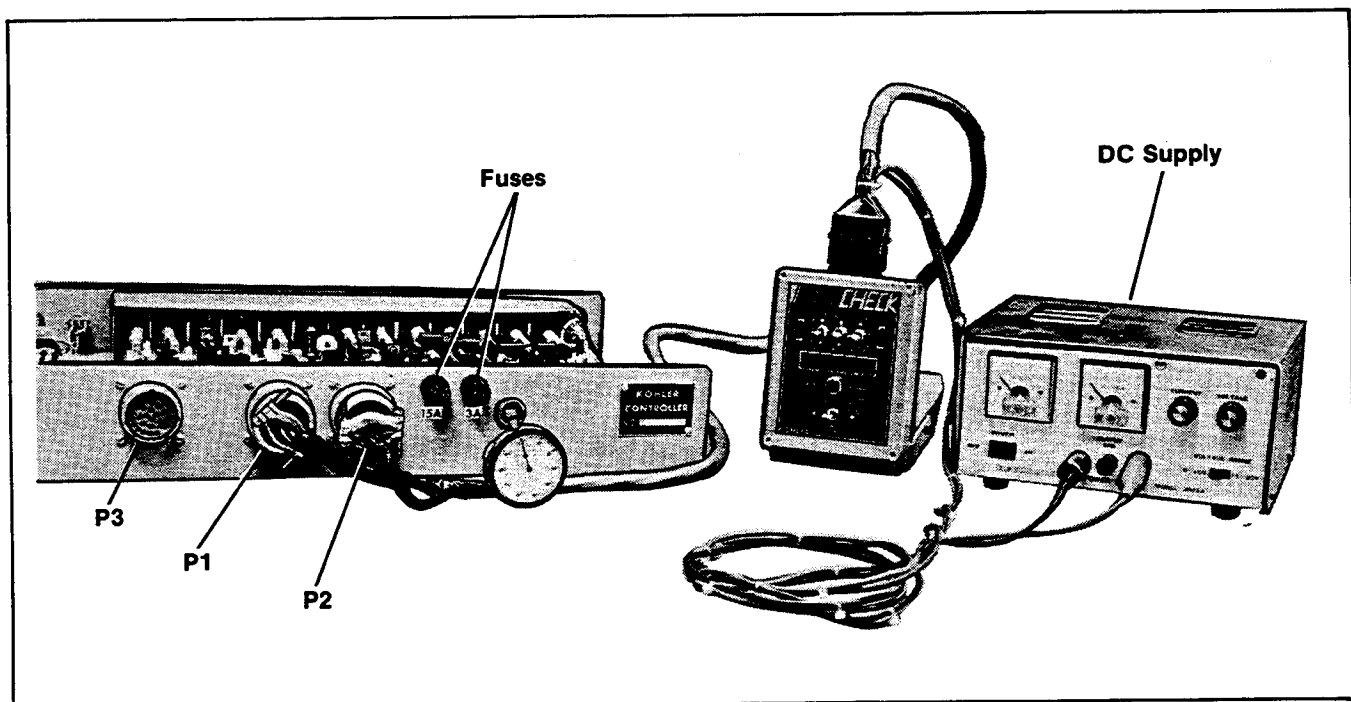

Figure 3-2. Fast Check Connection
2. Connect P1 and P2 connectors of Fast Check harness to P1 and P2 connectors at rear of controller. Connectors are keyed to prevent misconnection. See Figure 3-2.